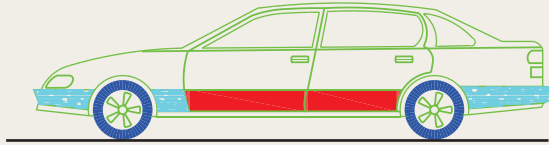

Fig. 8.23 Exercise 4
4. Figure 8.23 is a front view of a car with parts hatched. Construct a similar drawing of any make of car, using hatching to emphasize the shape.